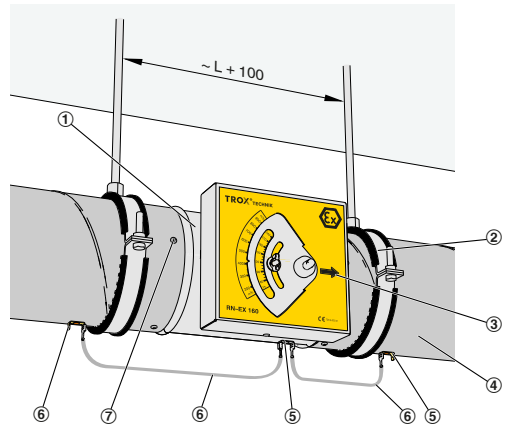

Fig. 4: Installation example
1. ▶ Pre-assemble suspensions (Fig. 4/2) at the installation location, at a distance of approx. $L+100$ mm.
2. ▶ Assemble the first duct (Fig. 4/4) and lead it up to the installation location of the controller.
3. ▶ Push the spigot of the CAV controller (Fig. 4/1) into the duct; note the airflow direction marked by the arrow (Fig. 4/3).
4. ▶ Push the second duct (Fig. 4/4) onto the other spigot.
6. ▶ Fix the controller to the duct using screws or rivets (Fig. 4/7).
7. ▶ Make the equipotential bonding (Fig. 4/5) using ground strap and blade connector (Fig. 4/6).